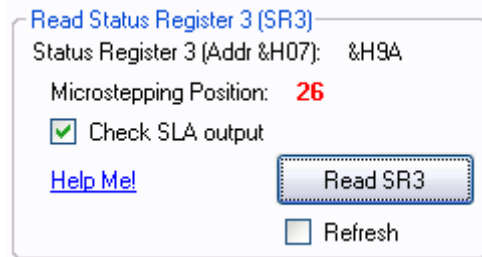

Figure 13. Check SLA Output
- Step 8: Verify if there is no offset created by reading the Microstepping Position (Status Register 3). This can easily be done by enabling Check SLA Output in the Graphical User Interface (GUI) of the AMIS-3052x Evaluation Kit (see Figure 13). When checked, the Microstepping Position will color red if an offset is created (when Status Register 3 is read out).